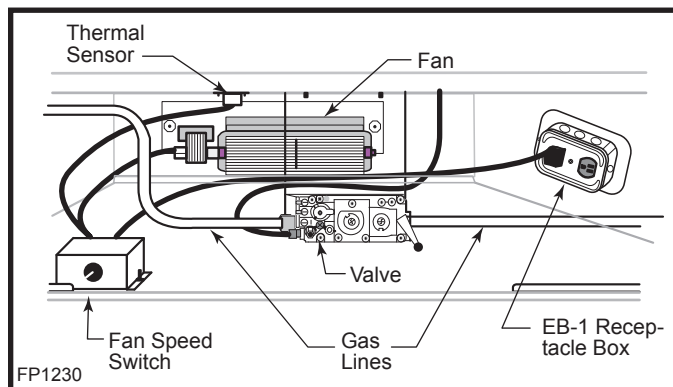

Fig. 56 FK24 fan placement.
3. Locate the fan speed control unit. This can be fitted behind the lower louvre assembly as in Figure 56 or located remotely in a conveniently located wall mounted electrical box. Remote location of the speed control will require suitable extension of the component wiring.